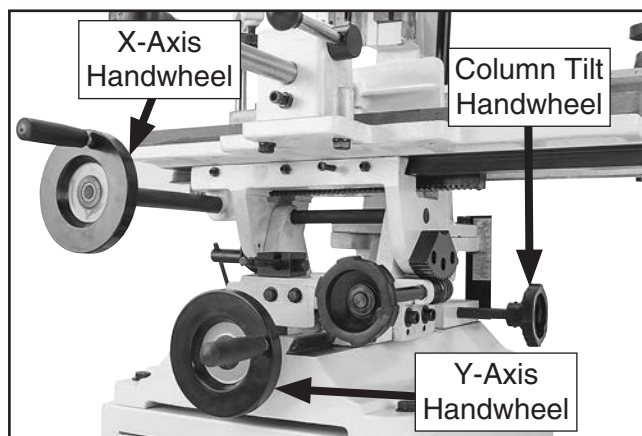

Figure 26. Table and column controls.
1. Use handwheels (see **Figure 26**) to position table and column with workpiece at desired starting location for mortising.